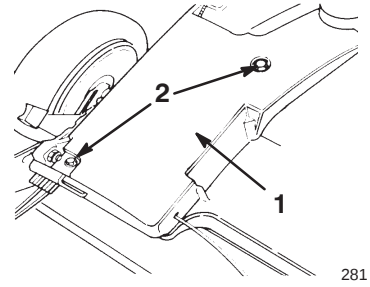

Figure 21
4. Remove the belt cover (Fig. 21).